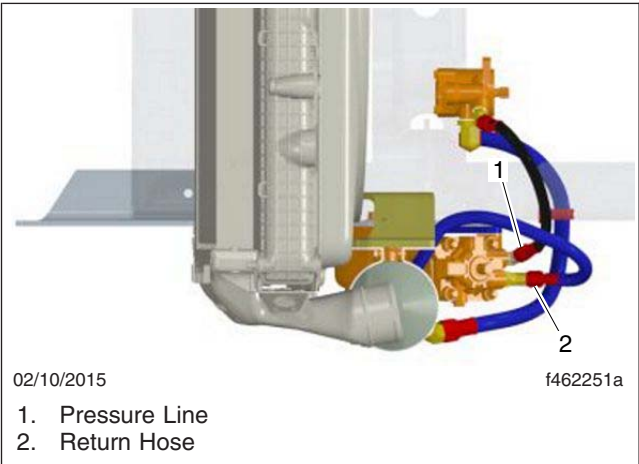

Fig. 3, Power Steering Reservoir, Top View
7. Remove the pressure line and return hose (see Fig. 3) from the steering gear and allow the oil to drain.